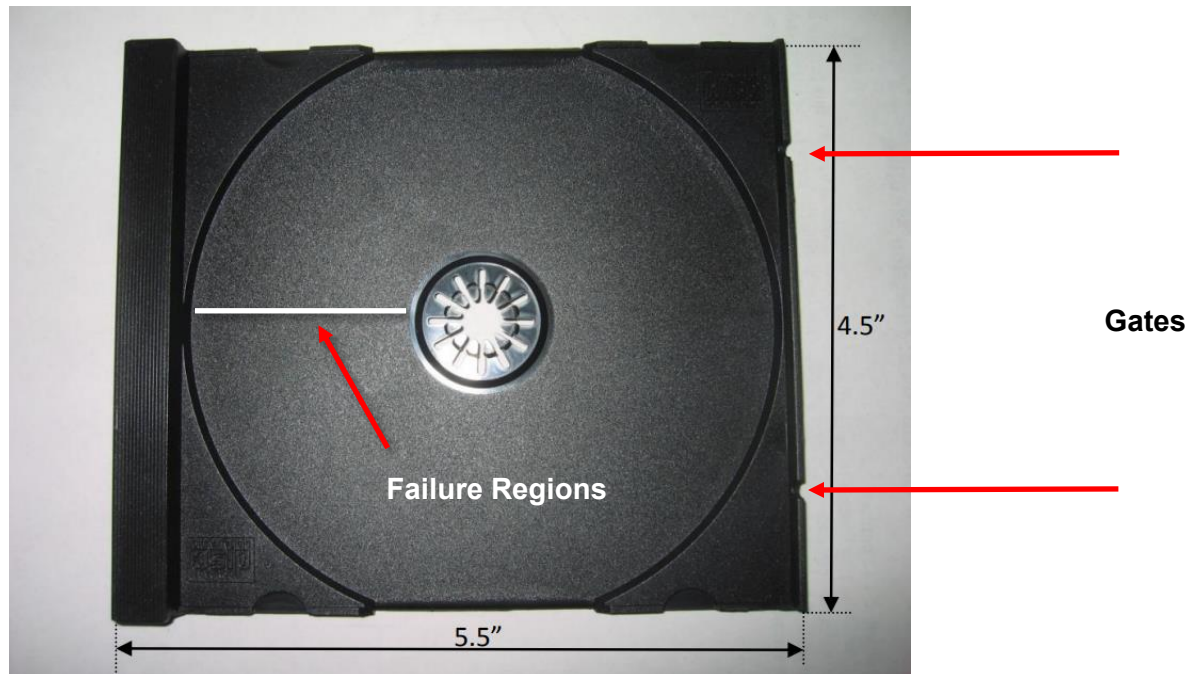

Figure 4. CD case failure regions.
- c) The company is having problems with case breaking in the locations shown in **Figure 4**. Why are the cases breaking here? It may be helpful to use a sketch to show your reasoning. **(3 pts)**